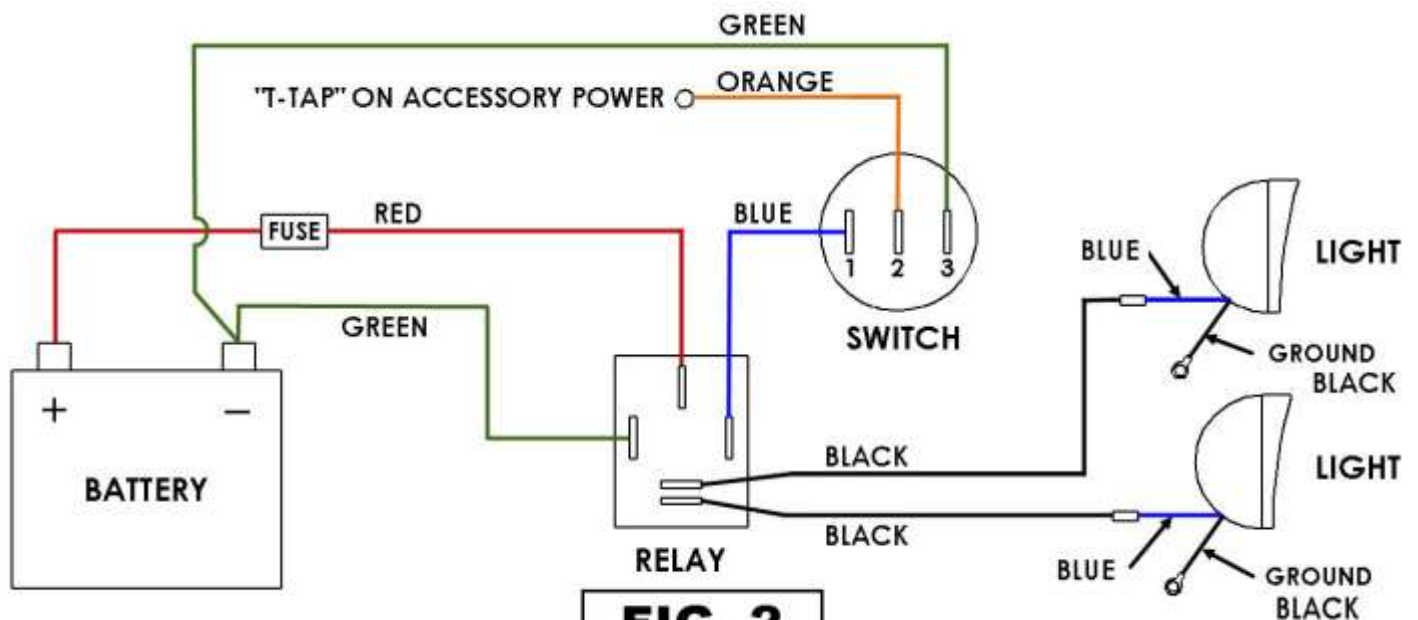

FIG. 2
- INSTALL EACH OEM TURN SIGNAL (G) ONTO THE NEW TURN SIGNAL ADAPTER (H) ROUTING THE WIRES THROUGH THE HOLE IN THE ADAPTERS. USING THE SCREW (F) REMOVED IN STEP 9; SECURE THE TURN SIGNAL (G) TO THE ADAPTER (H).
- ROUTE THE OEM TURN SIGNAL WIRES AND SPOT LIGHT WIRE UNDER THE LIGHT BAR (D).
- THE TURN SIGNAL ADAPTERS (H) WITH OEM TURN SIGNALS (G) NEED TO BE POSITIONED INTO THE LOWER ENDS OF THE NEW LIGHT BAR (D) AND SECURED WITH THE SET SCREWS (J). THERE ARE THREE SET SCREWS ON EACH SIDE.
- USING THE M6-1.0 X 16MM LONG BUTTON SOCKET HEAD CAP SCREWS (K) AND 6MM LOCK WASHERS, INSTALL THE LIGHT BAR (D) ONTO THE LIGHT BAR BRACKET (B). TIGHTEN SECURELY WITH A 4MM ALLEN WRENCH.
- LOCATE YOUR BIKE'S BATTERY, FUSE BLOCK, AND/OR ACCESSORY TERMINALS AND WIRE ACCORDING USING FIG. 2.
WIRING THE DRIVING LIGHTS (SEE FIG. 2)